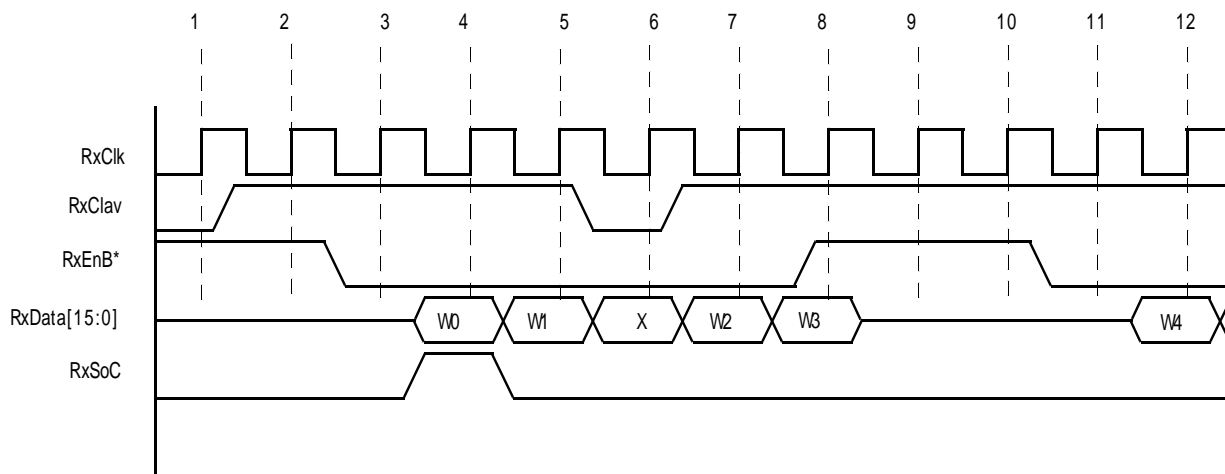

Figure 86. Timing Diagram of ATM Layer processor Receiving Data from the UN over the Utopia Data Bus, (Single-PHY Mode/ Octet Level Handshaking).
Notes regarding Figure 86:
2. The Receive Utopia Interface block is configured to handle 54 bytes/ cell. Hence, Figure 86 illustrates the ATM Layer processor reading 27 words (V0 through V26) for each ATM cell.